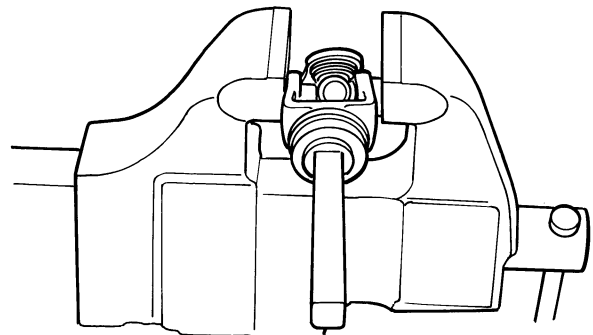

Figure 10
3. Place the yoke in a large vise with the jaws tight against the bearing cup. Slowly tighten the vise while moving the cross to assure it moves into the bearing cup correctly, as shown in Figure 10. Repeat this procedure for the other bearing cup.